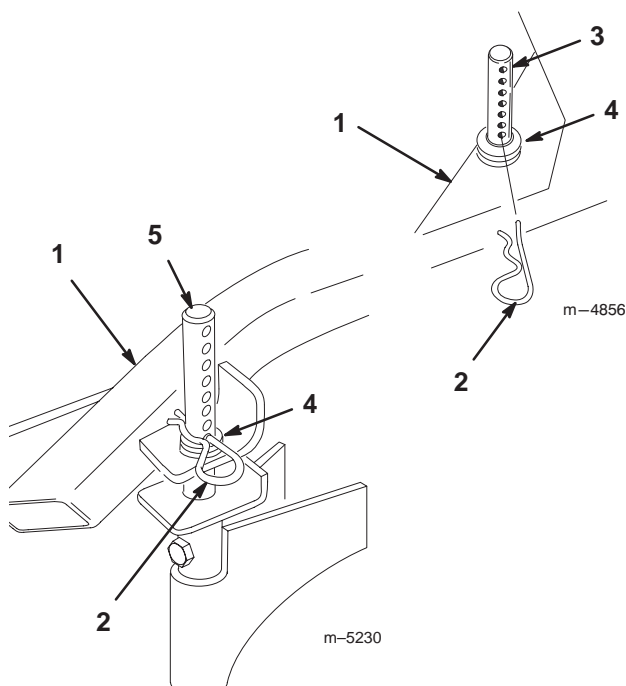

Figure 17
1. To adjust, remove hairpin cotter from height-of-cut post (Fig. 17).
2. Select hole in height-of-cut post corresponding to the height-of-cut desired (Fig. 17).
3. Lift on side of deck and remove hairpin cotter (Fig. 17).
4. Add or remove spacers, if needed, and then align holes and insert hairpin cotter (Fig. 17).